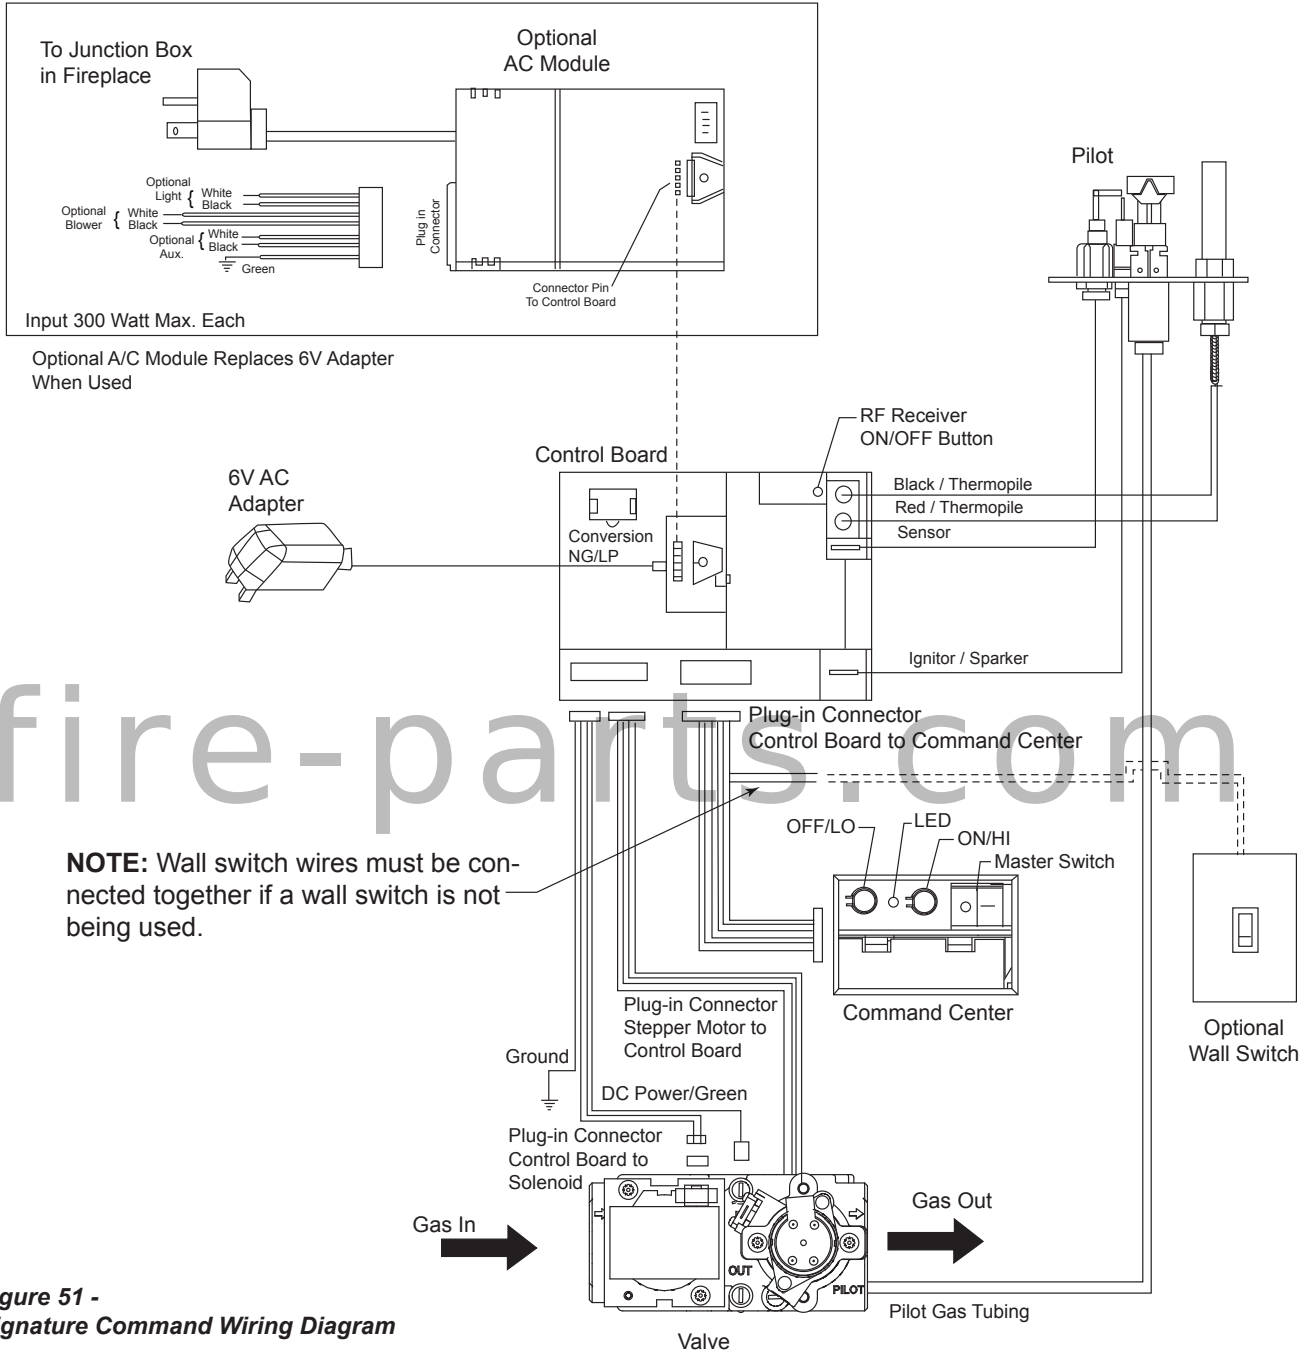

Figure 51 - Signature Command Wiring Diagram
The wall switch wire connection is located off the 2 ft. wire harness from the control box to the command center. *Figure 51*. The connection is labeled “Wall Switch”. Unplug the male and female connectors and connect the two (2) low voltage wires provided. Run wire to desired location on wall. Up to 50 ft. of 18 ga. wire may be used if necessary. Attach wires to wall switch. Mount the wall switch in to junction box and screw on cover.